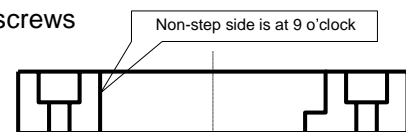
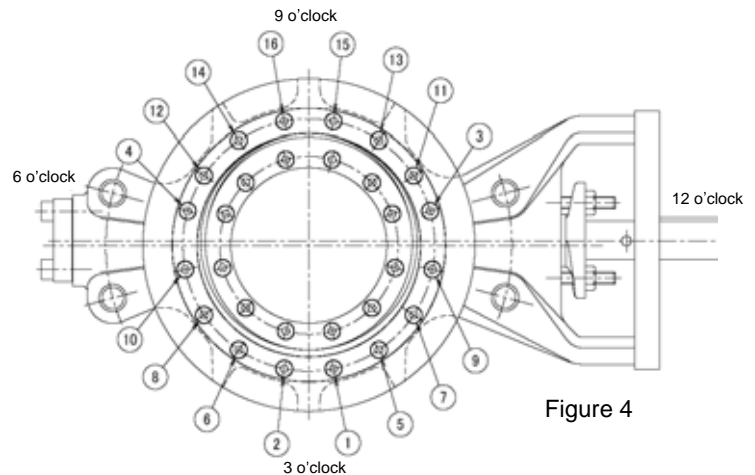

Figure 3
Figure 4
- ① Clean the mating surface to ensure that no foreign particles or gasket residue are present.
- ② Note that the disc seal gasket for bore size 200 mm or less is in a ring shape without bolt holes and has no distinction between front and back or top and bottom. However, the disc seal gasket for bore size 250 mm and over has bolt holes that need to be aligned with the bolt holes in the valve disc. Apply graphite paste (e.g. ThreeBond1107) to both sides of disc seal gasket (P.No.7) and place it on the valve disc as necessary.
- ③ Install the disc seal by following the positioning arrow marked on it. Align the arrow with the 9 o'clock direction. (Direction toward actuator is 12 o'clock; see Figure 4.) Check to ensure that the outside diameter of the valve disc (P.No.2) does not stick out beyond the outside diameter of the disc seal (P.No.6) when viewed from the front of the disc seal (P.No.6). Otherwise, grind the outside diameter with an angle grinder so that the valve disc (P.No.2) does not make contact with the body seat (P.No.3) when the valve is opened or closed.
- ④ Apply molybdenum disulfide grease to the disc seal screws (P.No.22) before installation.
- ⑤ Tighten all bolts to 25% of the torque specified in Appendix 2, in a diagonal sequence.
- ⑥ Tighten all bolts in a diagonal sequence to 50, 75, and 100% of the specified torque. Repeat tightening to 100% of the specified torque, two or three times, until the screws do not turn any more.
- ⑦ Retighten the bolts to 100% of the specified torque two hours after previous tightening
- ② Place the body seat gasket (P.No.5) on the valve body. Align the bolt holes with those in the valve body. The gasket has no distinction between its front and back sides. Apply graphite paste (e.g. ThreeBond1107) to both sides of body seat gasket (P.No.5) as necessary. (A notch is marked on the outer circumference at the 9 o'clock position as reference.)
- ③ Attach the body seat (P.No.3), which has distinct front and back sides, to the valve body with the 9 o'clock arrow facing you. Use the 0.5 mm thickness gauge to ensure that there is a gap between the outside diameter of the body seat (P.No.3) and the inside diameter of the valve body.
- ④ Attach the retainer (Part number 4) with its non-step side facing the 9 o'clock direction (Figure 3). Align the bolt holes in the valve body with those in the retainer.
- ⑤ Apply molybdenum disulfide graphite grease to the body seat screws (P.No.24) before installation.
- ① Turn out the body seat screws (P.No.24) by 1 to 2 turns, from the point where you feel resistance.
- ② Temporarily open the valve disc to about 20° and then close it slowly. During this operation, visually and manually check the movement of the retainer (P.No.4) at the 3 o'clock position. Stop the actuator immediately before the retainer is lifted up by the valve disc. If you try to identify the stop position again, do so after returning the body seat to its initial position, as the body seat (P.No.3) will overshoot once retainer is lifted up.
- ③ Adjust the position of the retainer so that the body seat hangs evenly over the retainer, and make sure that the retainer does not make contact with the disc seal. Then, tighten the body seat screws (P.No.24) lightly until the retainer does not move.
- ④ Successively tighten two screws at the 3 o'clock position (Figure 4 ①②), two screws at 6 and 12 o'clock (Figure 4 ③④), and the remaining screws (Figure 4 ⑤ to ⑯) from 9 o'clock, to 25% of the torque specified in Appendix 2.
- ⑤ Successively tighten the bolts to 50, 75, and 100% of the torque specified in Appendix 2.
- ⑥ Repeat tightening of all bolts from ① to ⑯ to 100% of the specified torque, two or three times, until they do not turn.
- ⑦ Open the valve disc to approximately 20° again. To apply closing torque to the valve, loosen the stopper of the actuator on the closing side so that the actuator is set to its fully closed position.
- ⑧ Fully open and close the valve slowly to make sure that the valve disc, disc seal and body seat move smoothly and that no deformation of metal laminate is present at the edge of the body seat in the fully open position. Especially when checking the edges of the body seat in the upper and lower cutouts, use a flashlight to get a clear view, as the disc seal is close to the body seat (P.No.3).
- ⑨ By shining light on the fully closed valve from the valve stem side while applying closing torque, ensure that no light can be seen between the body seat and the disc seal. If any light is visible, redo the procedure from Section 8.4 Tightening Adjustment of the body seat (P.No.3).
- ⑩ Retighten the bolts to 100% of the specified torque after two hours after the previous tightening.